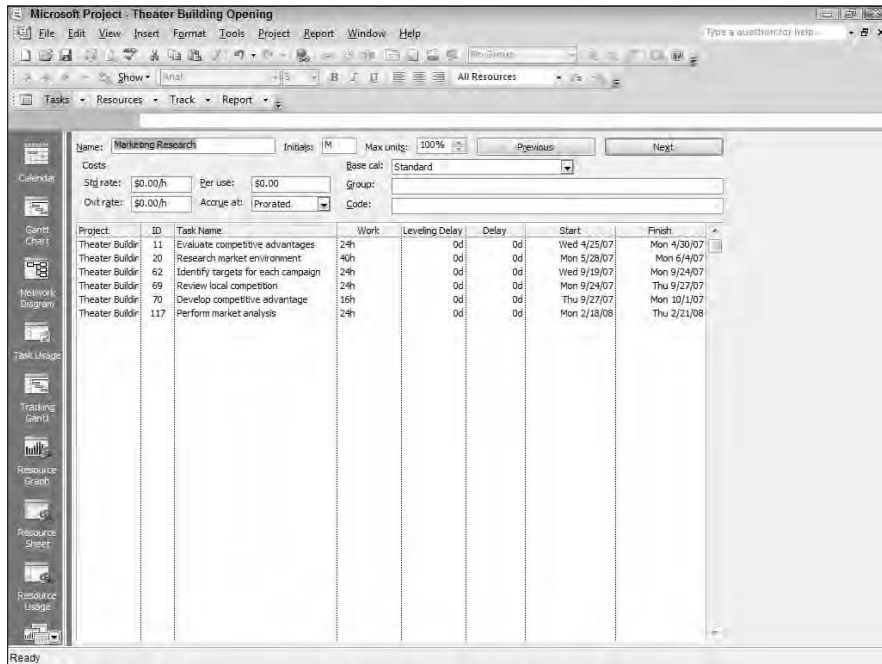

Figure 3-10: Resource Form view.
- ◆ **Resource Form** view (see Figure 3-10), like the Task Entry view, is a summary of all of a resource's settings on a single page. Use this view to review resource assignments, calendars, and rates of pay. It's a one-page alternative to the various tabs of the Resource Information dialog box.